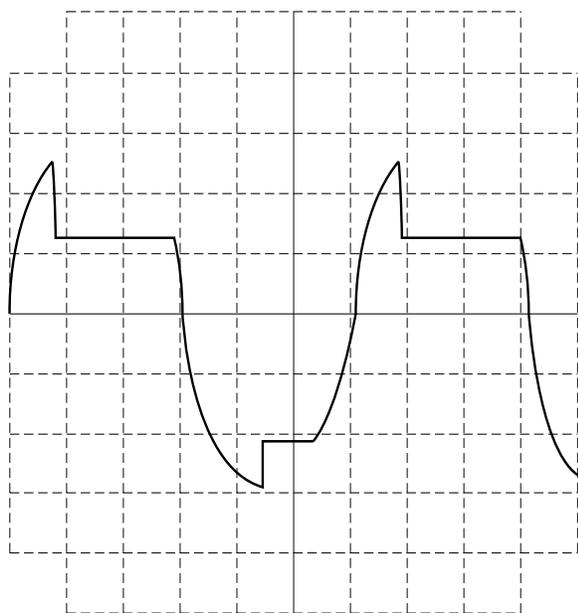

Figure 5. ODEP Limiting Wave Form
**Procedure:** Load the amplifier to 2 ohms on each channel. Inject a 60 Hz sine wave and adjust for 20 Vrms at the output. After a few minutes observe a wave form similar to Figure 5. Remove the input signal from both channels and allow the amplifier to cool for a few minutes. Switch the amplifier to Parallel Mono and remove the load from Channel 1. Inject the signal into Channel 1 and observe that ODEP limiting occurs at the output of both channels. Remove the load from Channel 2, and install the load on Channel 1. Again, observe that both channels limit. Return all amplifier controls to standard initial conditions. Remove the fan obstruction.